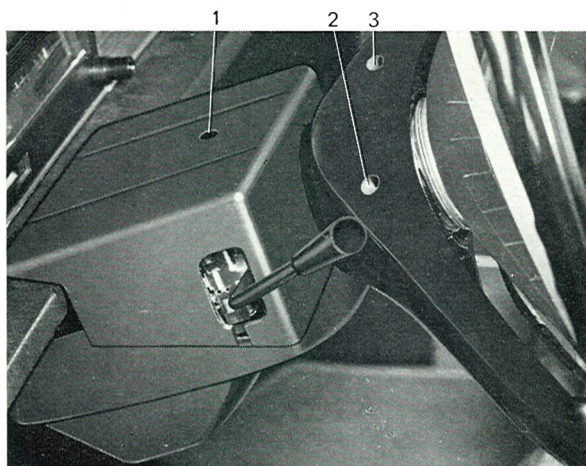

Fig. 6-35. Directional indicator switch housing, upper part
1. Remove the screws for the directional indicator switch housing and lift off the housing. Remove the screws (2 and 3, Fig. 6-35), lift up the horn ring, disconnect the ground cable and remove the horn ring, see Figs. 6-35 and 6-36.